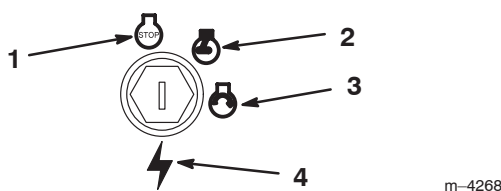

Figure 8
3. Turn the ignition key to Off (Fig. 8).